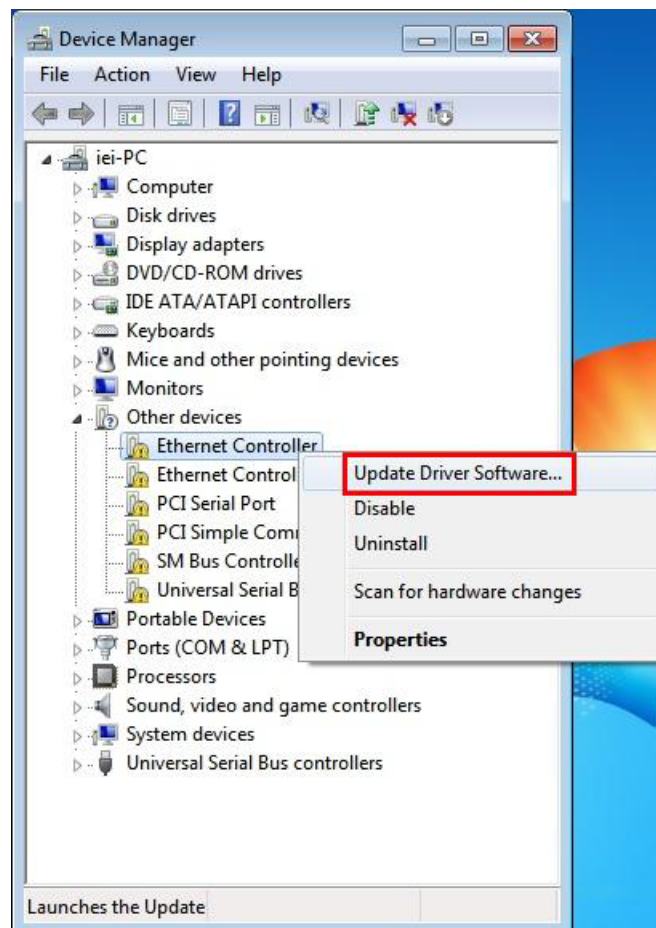

Figure 6-14: Device Manager List
- Step 4:** A list of system hardware devices appears (**Figure 6-14**).